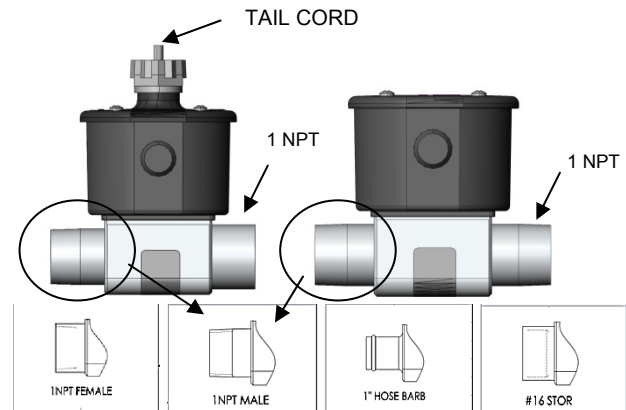

Figure 1 - OPTIONAL PORT SIZES
**Step 3:** Attach the plumbing to the other end of the thermostat assembly. See Figure 1 for optional port sizes. Tighten all connections on the thermostat assembly prior to refilling the engine.
The thermostat assembly is available with or without a tail cord (see figure 1). If the assembly does not include a cord, appropriate conduit or cord connection must be made to the wiring enclosure.